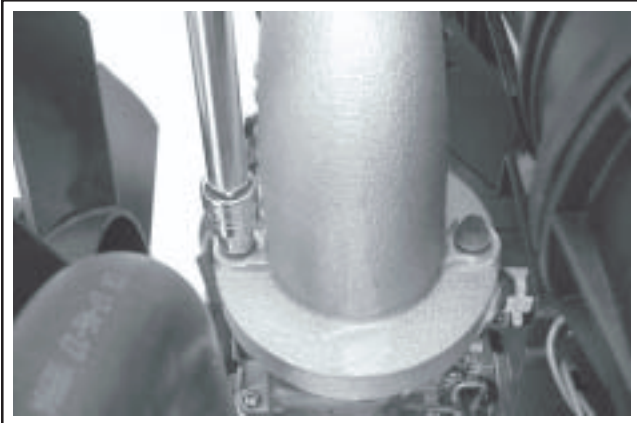

Figure 9-15. Removing Elbow Adapter Mounting Screws.
1. Remove the two screws securing the elbow adapter and gasket to the carburetor. See Figure 9-15.